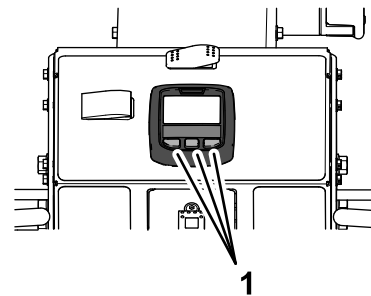

Figure 31
3. Press any of the buttons on the InfoCenter (Figure 31).